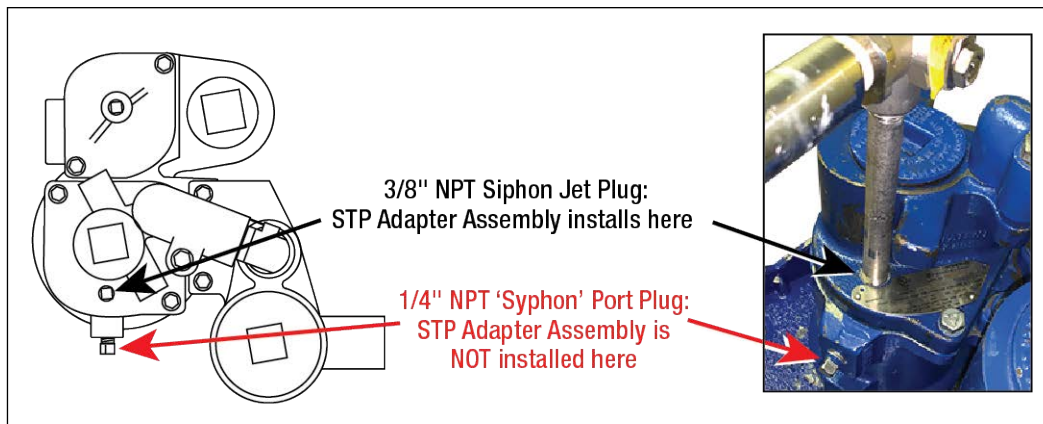

Figure 19. Locating FE Petro 3/8" NPT Siphon Jet Port
7. Remove the 3/8" NPT siphon jet port plug from the STP (see Figure 19).